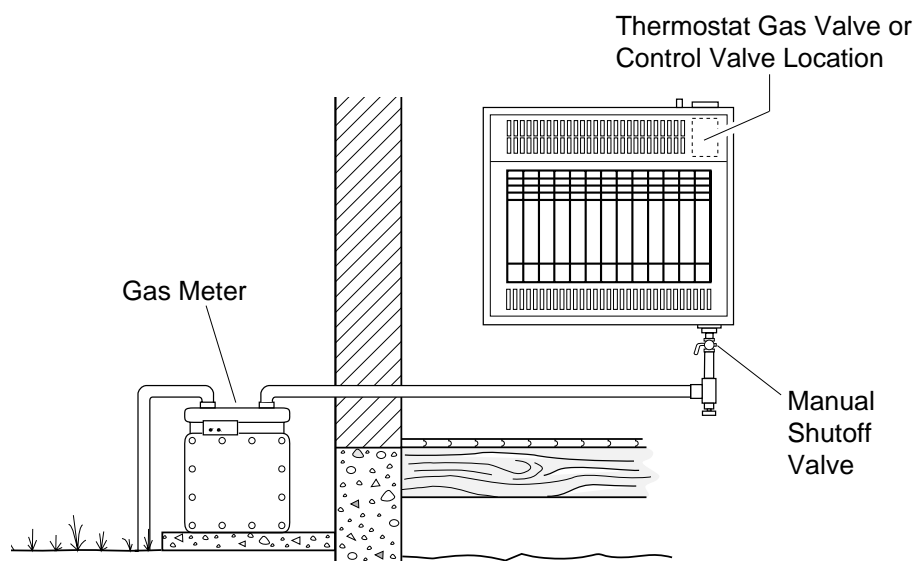

Figure 15 - Checking Gas Joints
3. Check all joints from gas meter to manual shutoff valve (see Figure 15). Apply mixture of liquid soap and water to gas joints. Bubbles forming show a leak.
4. Check all joints from manual shutoff valve to thermostat gas valve (thermostat models) or control valve (non-thermostat model) (see Figure 15). Apply mixture of liquid soap and water to gas joints. Bubbles forming show a leak.